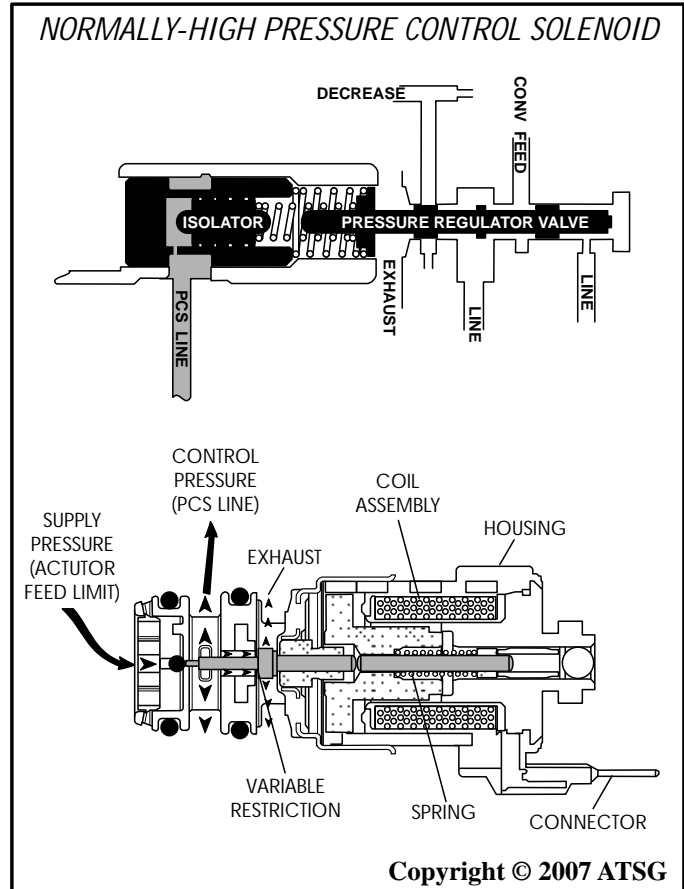

Figure 11
The line pressure (PC) solenoid is a precision electronic pressure regulator that controls line pressure based on current flow through its coil windings. The TCM varies current to the "**normally-high**" amperage line pressure control (PC) solenoid from approximately 0.1 amp (maximum line pressure), to 1.0 amps (minimum line pressure). As current flow is increased, the magnetic field produced by the coil moves the solenoid's variable restriction further away from the exhaust port, as shown in Figure 11. Opening the exhaust port decreases the control pressure, which is routed to the isolator (boost) valve, as shown in Figure 11, which ultimately decreases line pressure. As the current flow is decreased, the reduced magnetic field allows the spring force to move the variable restriction to the left, as shown in Figure 11, closer to the exhaust port, increasing control pressure from the solenoid, which ultimately increases line pressure.